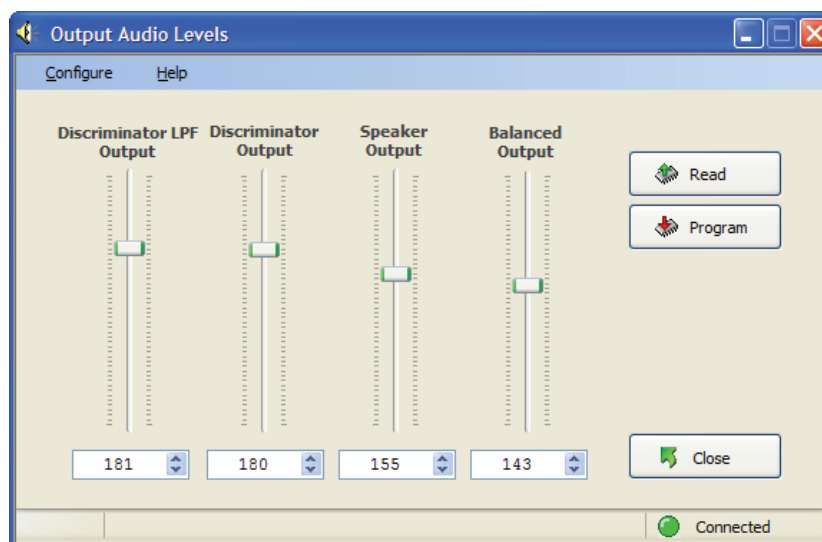

Figure A-5: RSS Receiver Audio Level Adjustment
3. Push 2ND FUNCT then DVM (7) on the IFR 1200 keypad.
5. In the Audio Levels area of the Service section on the RSS, adjust the Rx Balanced Audio Output level adjustment as shown in Figure A-5 until -8.0 dBm audio level (0.308 Vrms @ 600 ohms) is measured on the DVM meter of the IFR 1200. If no external 600 ohm load is available, the audio level could be adjusted for approximately 0.585 Vrms in the IFR 1200.